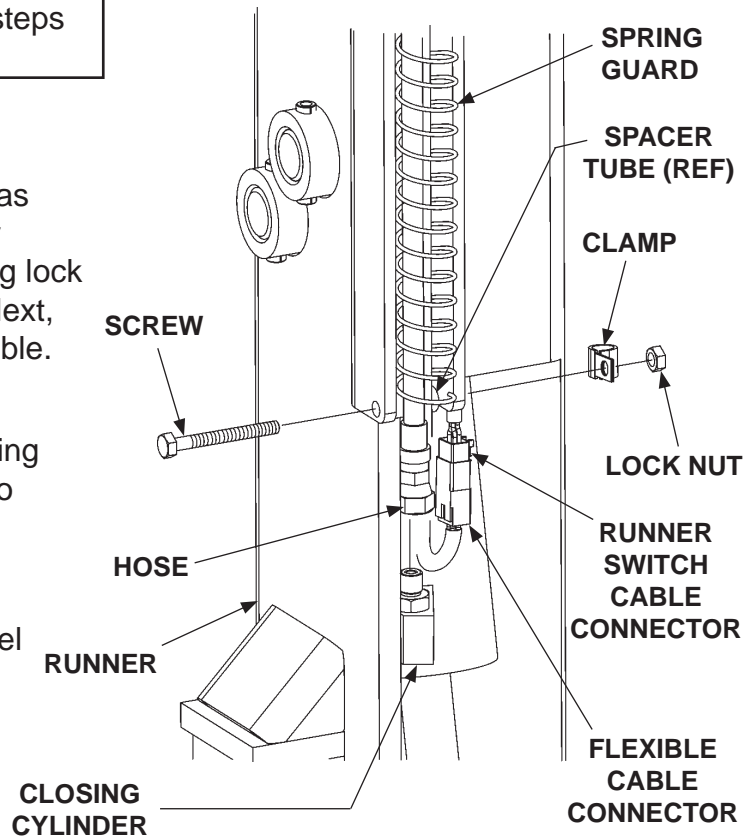

FIG. 25-1
5. Disconnect runner switch cable from flexible cable near bottom of runner as shown in **FIG. 25-1**. Unclamp runner switch cable from runner by removing lock nut, clamp, and screw (**FIG. 25-1**). Next, remove clamp from runner switch cable.
6. Disconnect hydraulic hose from closing cylinder (**FIG. 25-1**). Use drain pan to collect hydraulic fluid from hose.
7. Pull spring guard, flexible cable, and hydraulic hose away from the channel at bottom of runner (**FIG. 25-1**).